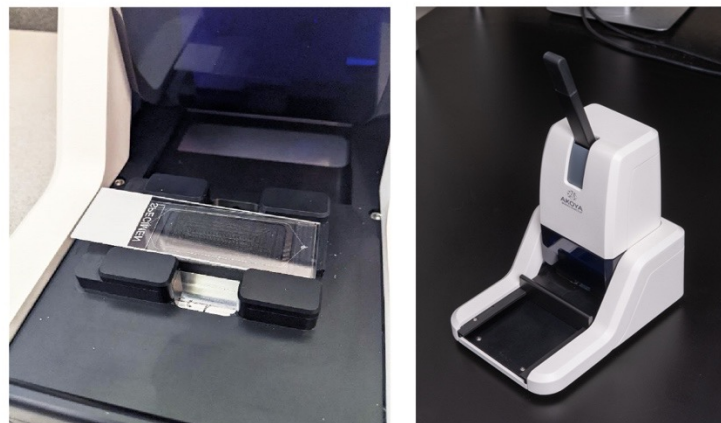

Figure 3.16. Flow Cell and Slide ready for assembly (left). The Flow Cell in the Assembly Device with the drawer in the close/assembly position (right).
- 17.** Gently slide the drawer all the way into the close/assembly position as illustrated. (See Figure 3.16, right.)